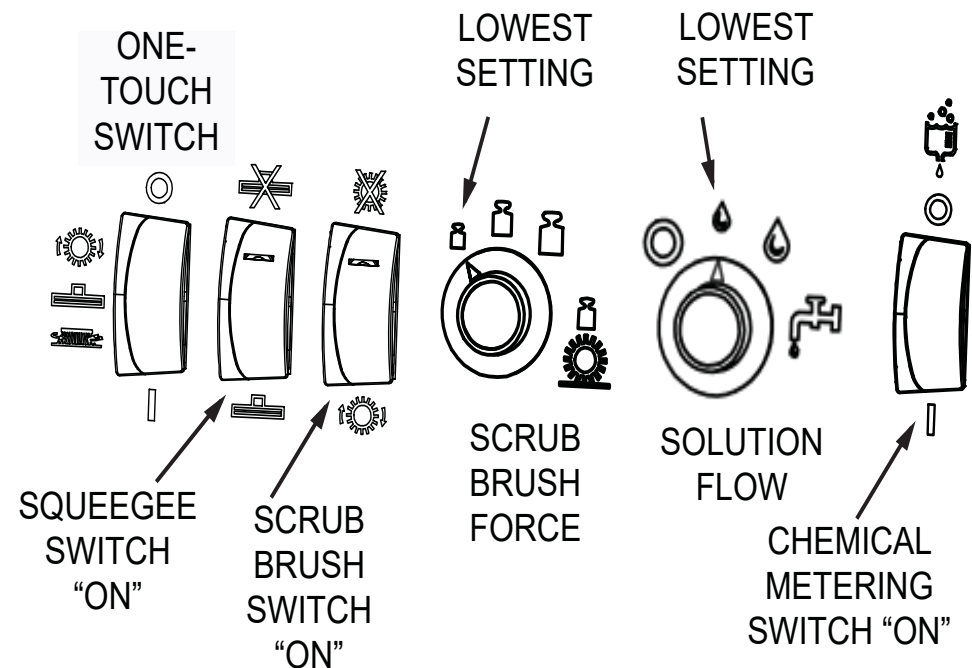

Fig. 2: Control Settings, before “One-Touch” selection
3. Insure that the squeegee and brush switches (to the right of the green one-touch switch) are in the “on” position. Set the brush pressure switch to the lowest setting required for the scrubbing application. Set the solution control knob to the low flow position. (See Fig. 2)